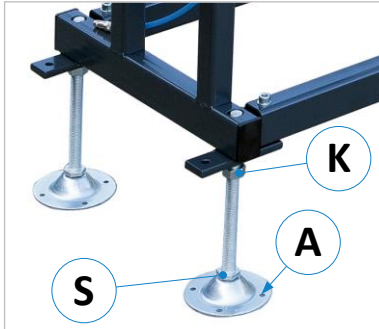

Figure 4: Levelling feet
When all parts are assembled and aligned to the machine, anchor the roller & measuring conveyoy to the floor via the four holes (A) in the foot plates with heavy duty dowels (see ⇒ Figure 4).